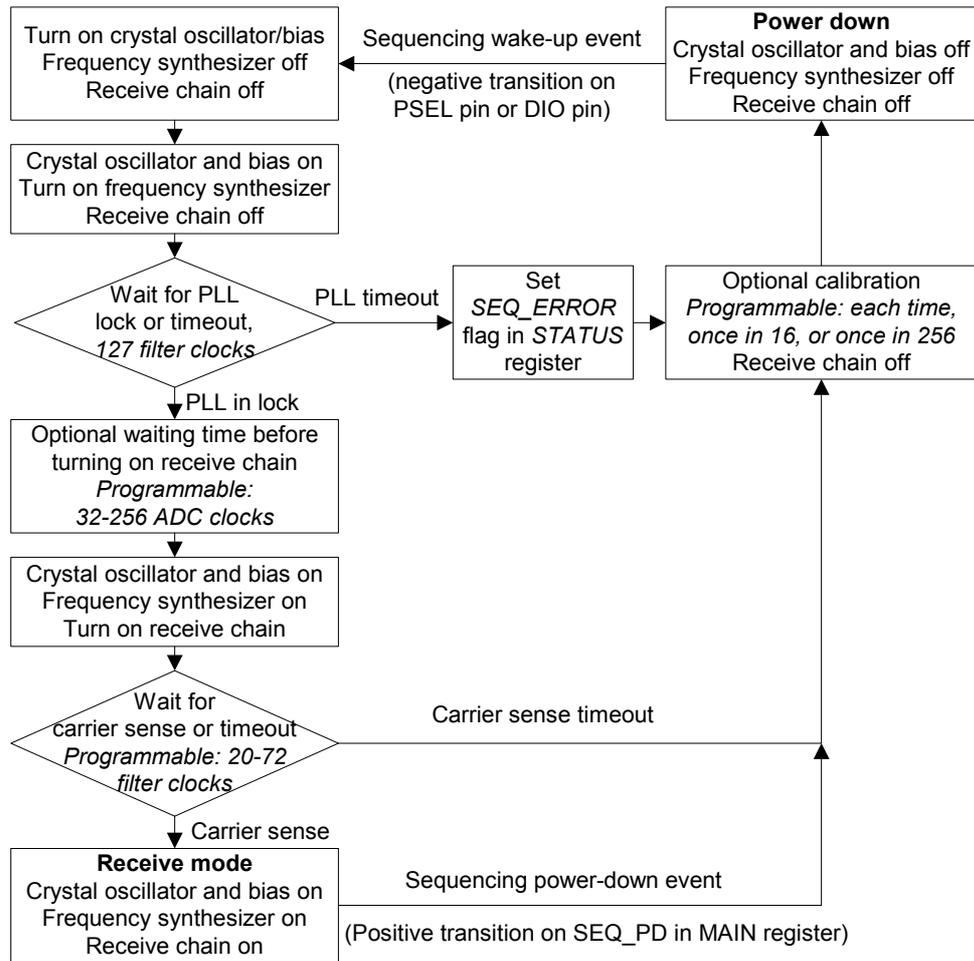

Figure 19. Automatic power-up sequencing flow chart
**CC1020** has a built-in automatic power-up sequencing state machine. By setting the **CC1020** into this mode, the receiver can be powered-up automatically by a wake-up signal and will then check for a carrier signal (carrier sense). If carrier sense is not detected, it returns to power-down mode. A flow chart for automatic power-up sequencing is shown in Figure 19.
Notes to Figure 19: